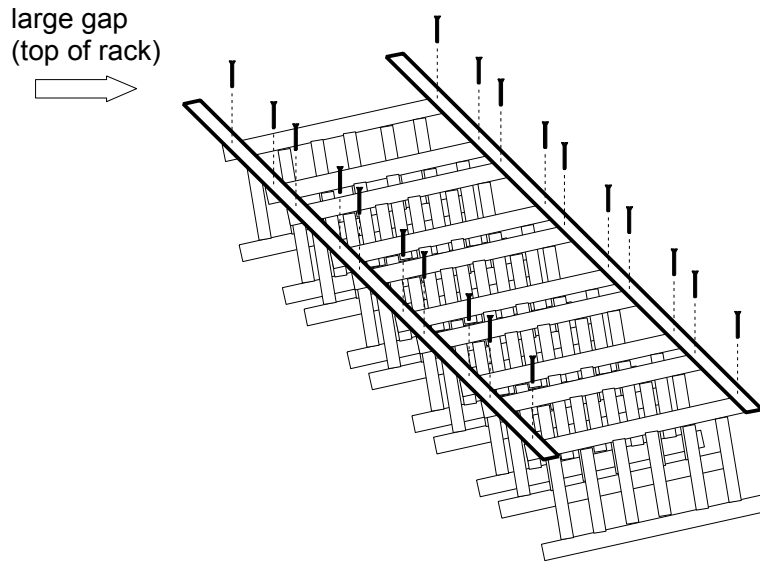

figure 1
2. Orient each shelf on the floor with all of the bottle supports facing the same direction. Orient a leg along both edges of the shelves with the larger gap at the top of the rack. Fit the edge of each shelf into a notch in the leg. Drill pilot holes (optional) and attach leg flush with the edge of each shelf using the 1/4" wood screws that came with your rack. Repeat on both sides. (figure 1)